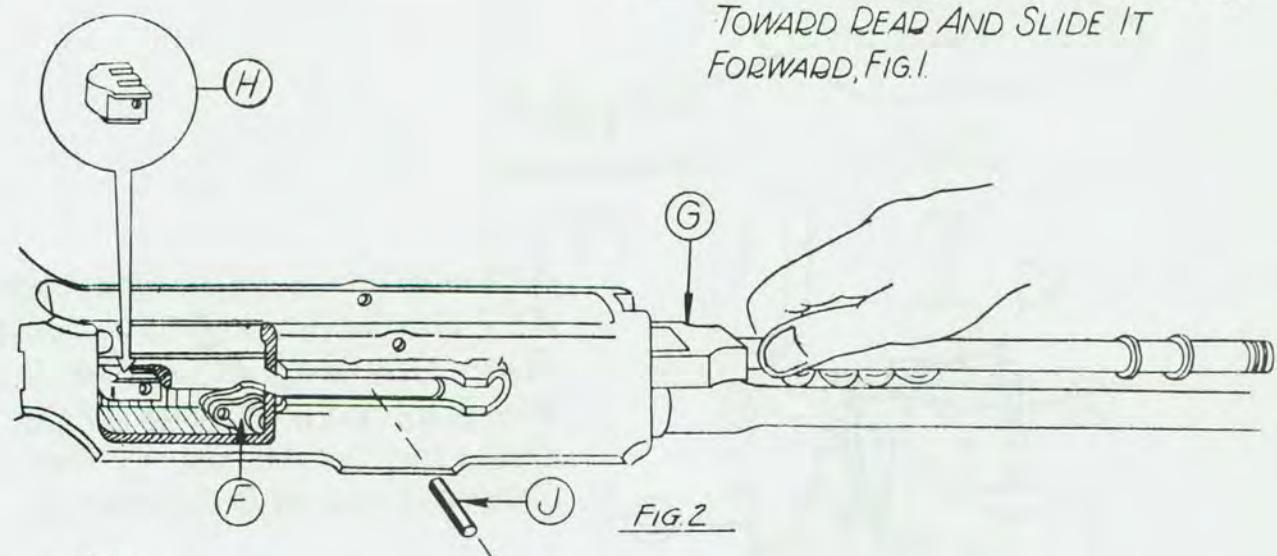

FIG. 2
⑩ PRESS DOWN BOLT LINK (F), FIG. 2, AND INSERT OPERATING SLIDE (G). SLIDE HAMMER (H) INTO UNDER SIDE OF OPERATING SLIDE (G). PULL SLIDE (G) FORWARD AND LIFT UP LINK (F) UNTIL PIN (J) CAN BE INSERTED THROUGH SLIDE (G), HAMMER (H) AND LINK (A).